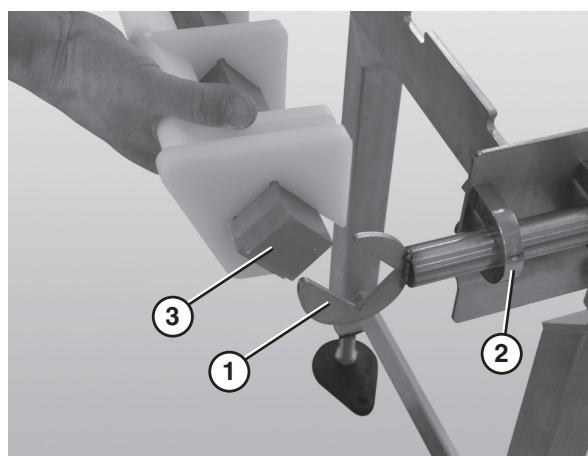

Figure 9
1. Slide the nose bar idler shaft hands (Figure 9, item 1) into the take up blocks (Figure 9, item 2).
2. Attach the nose bar transfer post (Figure 9, item 3) to the nose bar idler shaft hands.